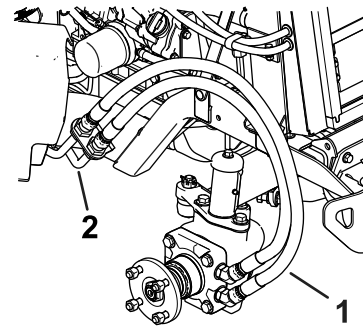
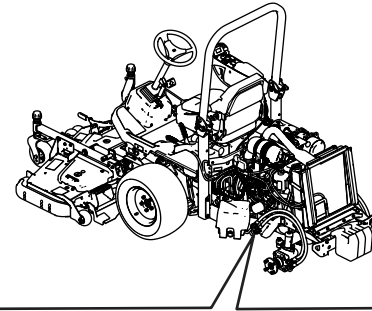

Figure 9
Figure 10
- Remove the existing hydraulic hoses from the hydraulic lines in front of the wheel and immediately install the caps to the hydraulic lines (Figure 9 and Figure 10).